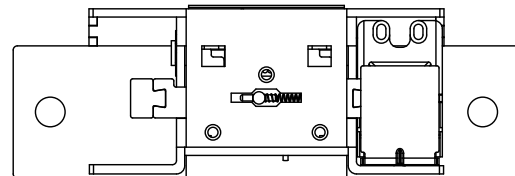

Figure 6.2
- Remove the tiny spring, shift the slider to the other side, and reinsert the spring. By-default the spring must be located to the Left Hand Side (Fail-secure mode) (See Figure 6.2)